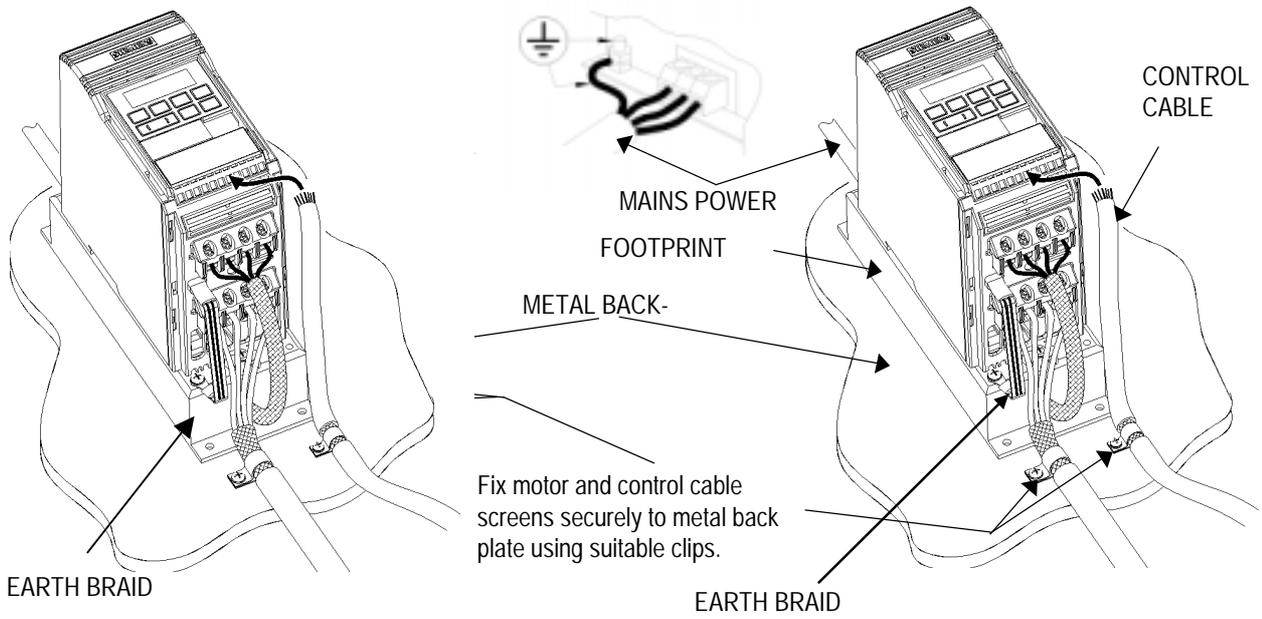

Figure 1.2.1: Wiring guidelines to minimise effects of EMI - NORDAC compact basic FSA
The inverters are designed to operate in an industrial environment where a high level of Electro-Magnetic Interference (EMI) can be expected. Usually, good installation practices will ensure safe and trouble-free operation. However, if problems are encountered, the following guidelines may prove useful. In particular, grounding of the system 0V at the inverter, as described below, may prove effective. *Figure 1.2.1- 3* illustrates how an RFI suppression filter should be installed.
- (2) Wherever possible, use screened leads for connections to the control circuitry. Terminate the ends of the cable neatly, ensuring that unscreened wires are as short as possible. Use cable glands whenever possible.
- (3) Separate the control cables from the power connections as much as possible, using separate trunking, etc. If control and power cables cross, arrange the cables so that they cross at 90° if possible.
- (4) Ensure that contactors in the cubicle are suppressed, either with R-C suppressors for AC contactors or 'flywheel' diodes for DC contactors, **fitted to the coils**. Varistor suppressors are also effective. This is particularly important if the contactors are controlled from the relay on the inverter.
- (5) Use screened or armoured cables for the motor connections and ground the screen at both ends via the cable glands.
- (6) If the drive is to be operated in an Electromagnetically noisy environment, the RFI filter should be used to reduce the conducted and radiated interference from the inverter. For optimum performance, there should be a good conductive bond between filter and metal mounting plate.
- (7) For FSA units (*Fig 1.2.1*), the flat earth braid strap, supplied with the unit, should be fitted to minimise emissions.